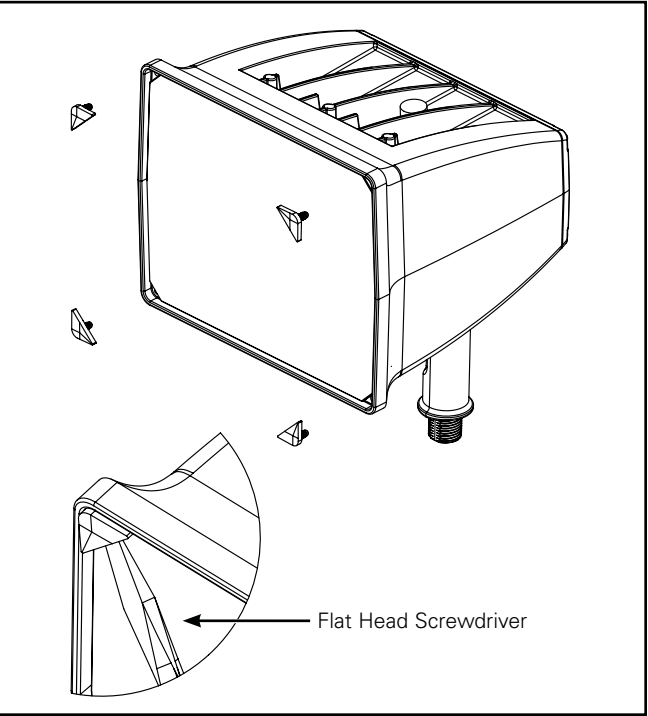
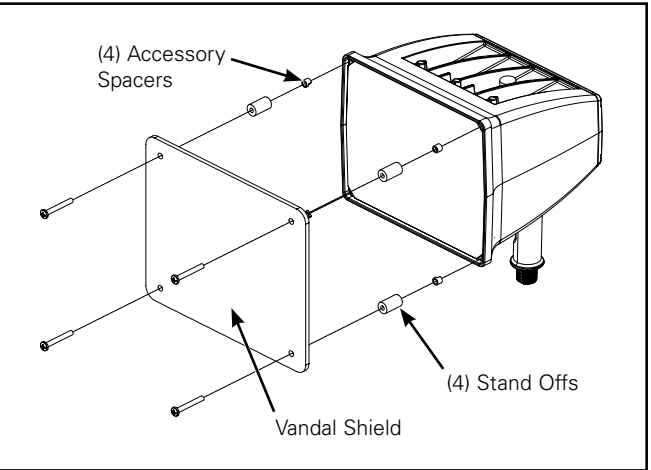

Figure 6.
Figure 8.
2. Remove the existing (4) black clips on the edge of the lens with flat head screwdriver. (Figure 6.)
3. Align the (4) 7/8" standoffs on top of the (4) accessory spacers.
4. Use (4) 10-24 x 1-1/2" screws to secure vandal shield on top of fixture. (Figure 8.)